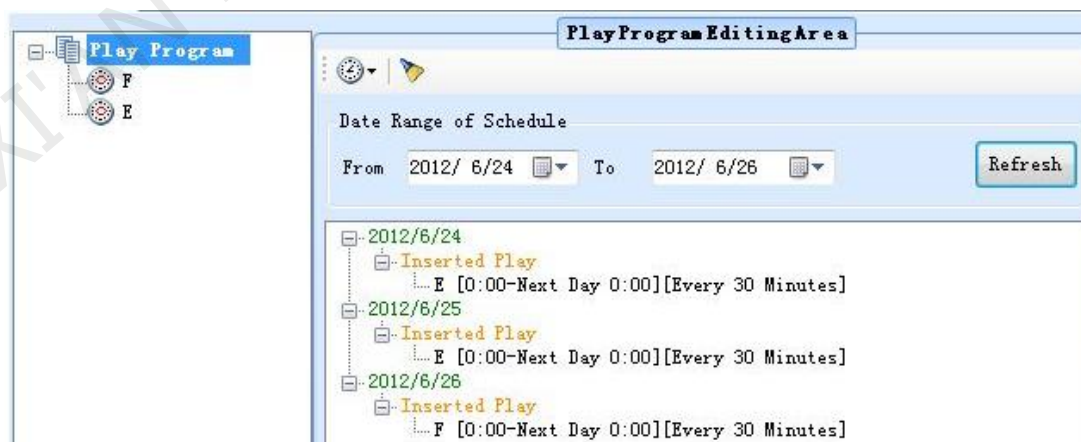

Fig. 10-15 E has higher priority than F
- Otherwise, if E is at the back of F in the play program, then E has the priority to be played on time confliction. The dispatching results will be shown as Fig. 10-15.